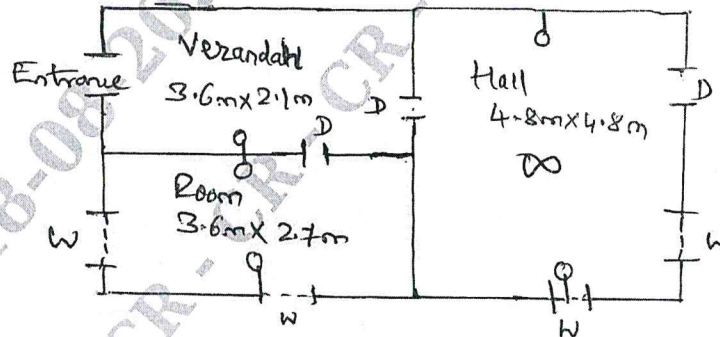

Fig.Q4(b) Plan of a house
- Draw the electrical circuit and estimate the quantity of materials required for P.V.C casting-capping used in a house, the plan of which is shown in Fig.Q4(b). Assume the height of ceiling as 3.6 meters and one plug point (60 W) is to be provided in each room. (06 Marks)